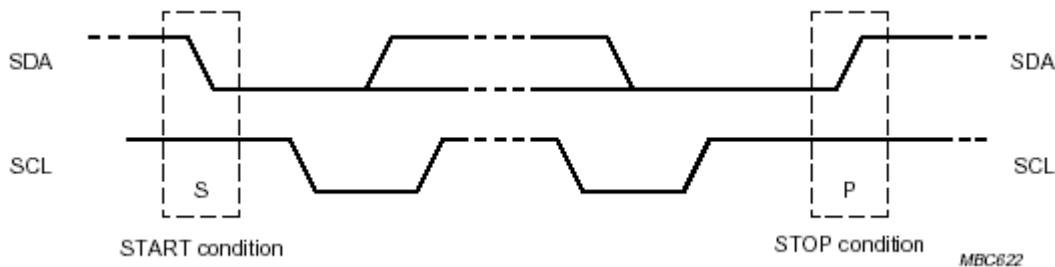

Figure 4.2-10 Start and Stop conditions
Within the procedure of the I²C-Bus, unique situations arise which are defined as START (S) and STOP (P) conditions (see Figure 4.2-10). A HIGH to LOW transition on the SDA line while SCL is HIGH is one such unique case. This situation indicates a START condition. A LOW to HIGH transition on the SDA line while SCL is HIGH defines a STOP condition. START and STOP conditions are always generated by the master. The bus is considered to be busy after the START condition. The bus is considered to be free again a certain time after the STOP condition. The bus stays busy if a repeated START (Sr) is generated instead of a STOP condition. In this respect, the START (S) and repeated START (Sr) conditions are functionally identical. Detection of START and STOP conditions by devices connected to the bus is easy if they incorporate the necessary interfacing hardware. However, microcontrollers with no such interface have to sample the SDA line at least twice per clock period to sense the transition.